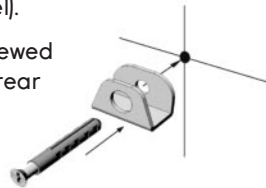
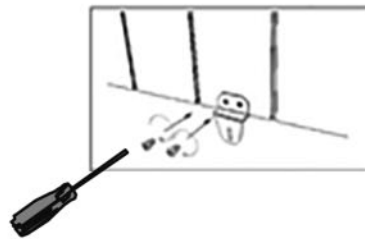

Fig. 6
Fig. 8
3. Push the two plugs (D) into the two holes and secure the two hooks (C) with the two screws (D). (Figure 6 & 7).
4. Screw the two support brackets (A) (or one support bracket, depending on the model) to the rear part of the heater with the four screws (E) (or two screws, depending on the model).
Note: The two brackets (A) are screwed to the holes located on the lower rear part of the heater, at both ends. (Figure 8).